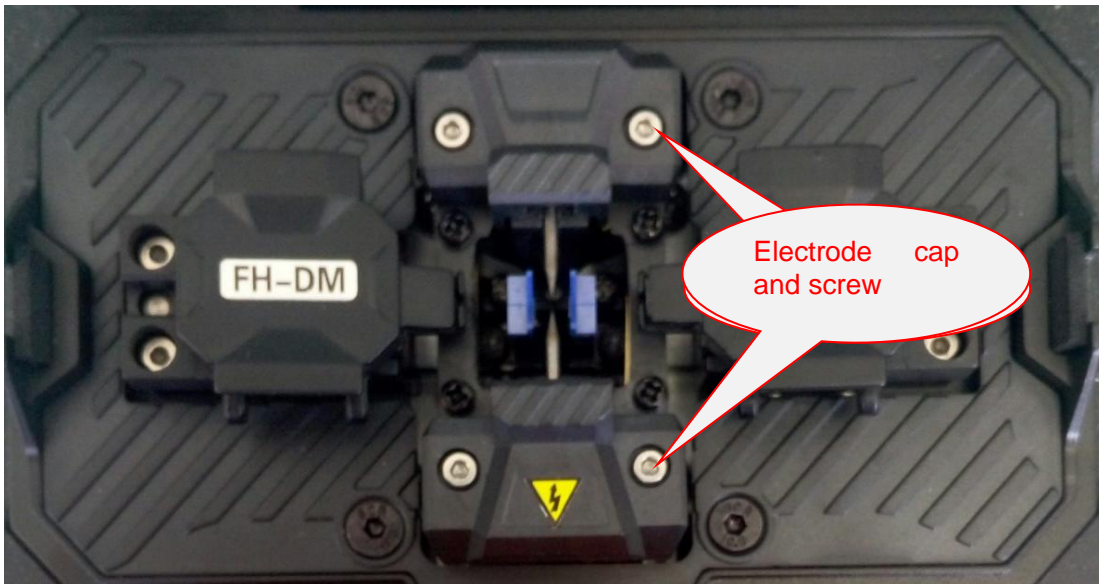

Fig.24 Electrode cap and screw
- b) Open the windshield to present the electrode as shown in Fig.24;